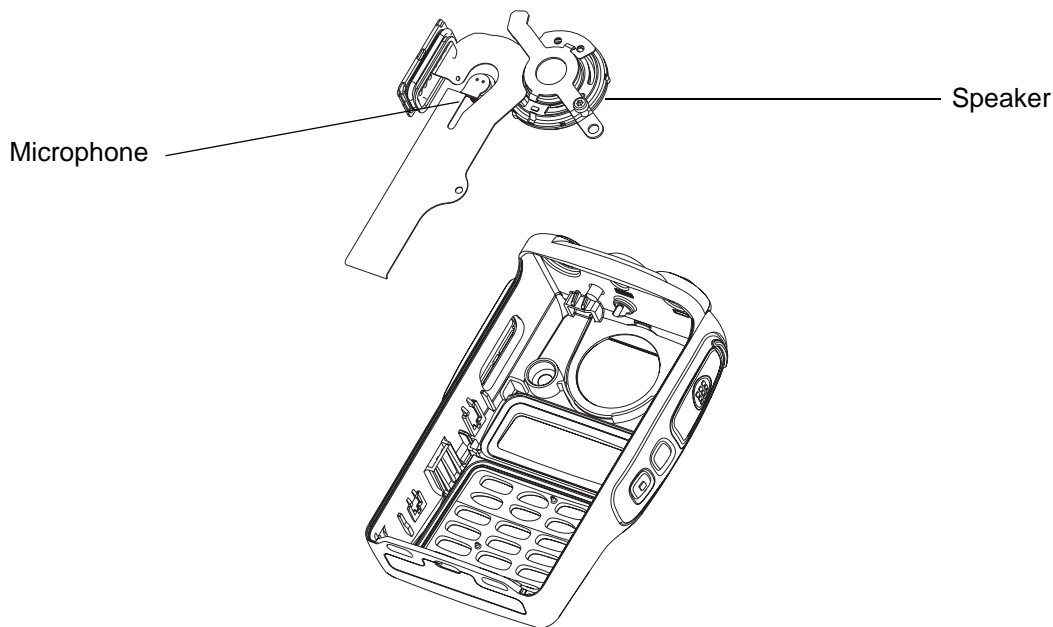

Figure 3-31 Removal Speaker-Microphone Assembly
2. Align the top notch in the speaker at the twelve o'clock position with the tab on the front cover. (See Figure 3-31.) Push down the speaker until the two bottom notches fit into the catches on the housing.